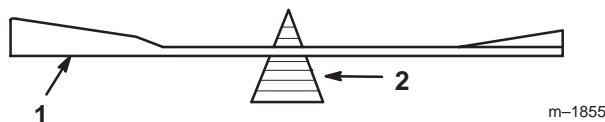

Figure 19
2. Check the balance of the blade by putting it on a blade balancer (Fig. 19). If the blade stays in a horizontal position, the blade is balanced and can be used. If the blade is not balanced, file some metal off the end of the sail area only (Fig. NO TAG). Repeat this procedure until the blade is balanced.